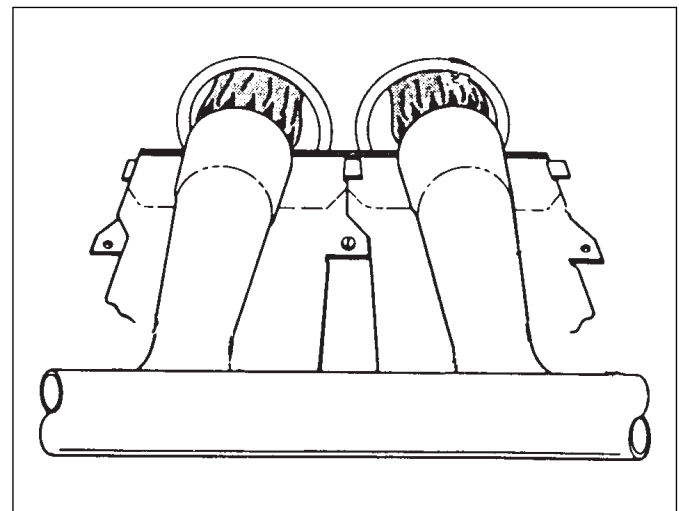

Figure 4 Burner Inspection
8. After the flame ignites, visually inspect the burner assembly to ensure that the flame is drawn directly into the center of the heat exchanger tube, as shown in Figure 4. The end of the flame will be out of sight around the bend of the heat exchanger tube. In a properly adjusted burner assembly, the flame color should be blue with some light yellow streaks near the outer portions of the flame.